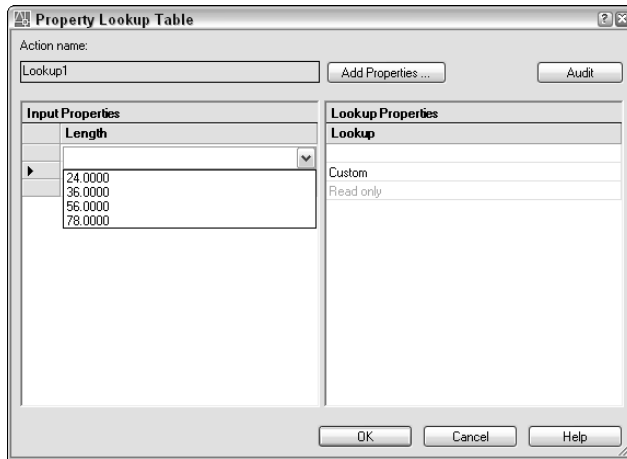

**Figure 18-21:** The Property Lookup Table dialog box enables you to associate values with labels.
4. Click the Add Properties button, choose the parameter that you want to work with (for example, the linear parameter), and click OK. You return to the Property Lookup Table dialog box, as shown in Figure 18-21.
5. If you have values from a value set, you can see them by clicking the first row in the Input Properties side of the dialog box. A drop-down arrow appears. Choose the first value. If you don't have a value set, you can enter values on each row. Click the same row on the Lookup Properties side of the dialog box and enter the label that corresponds with the value. For example, in Figure 18-21, the label was Desk Chair. Then click the next row, choose the next value, and enter the next label. Continue until you're done.